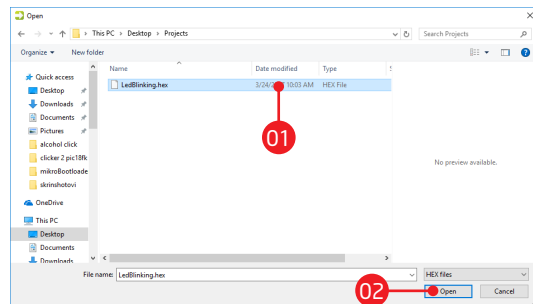

Figure 3-4: Selecting HEX
- 01 Click the Browse for HEX button and from a pop-up window [Figure 3-4] choose the .HEX file which will be uploaded to MCU memory.